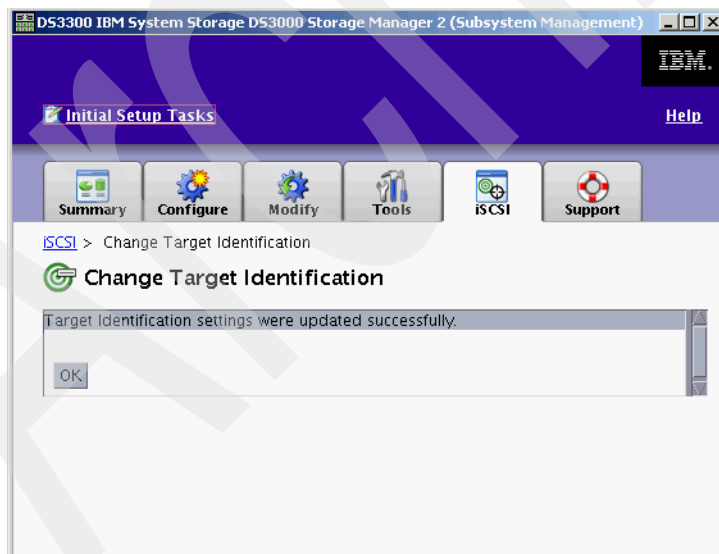

Figure 13-9 Storage Manager - Target identification changed
3. You will see a confirmation message, as shown in Figure 13-9. Click **OK** to return to the iSCSI tab.